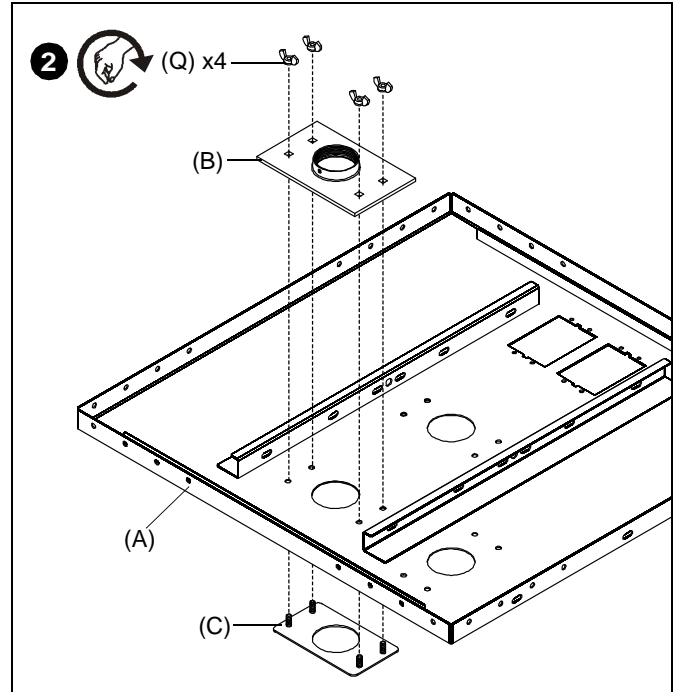

Figure 3
2. CMA450 ONLY: Assemble extension column upper support (B) and lower support (C) to center, side, or corner of tray (A) (as required) with wing nuts (Q) (See Figure 3).